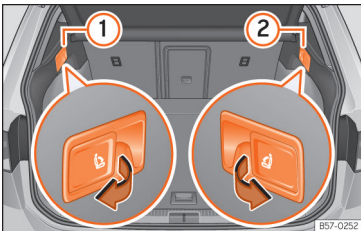

Fig. 81 In the luggage compartment: levers to unlock the rear backrest.
- Pull the remote release lever of the left >>> Fig. 81 ① or right ② parts of the backrest in the direction of the arrow. The released part of the rear seat backrest is folded automatically down and forwards.